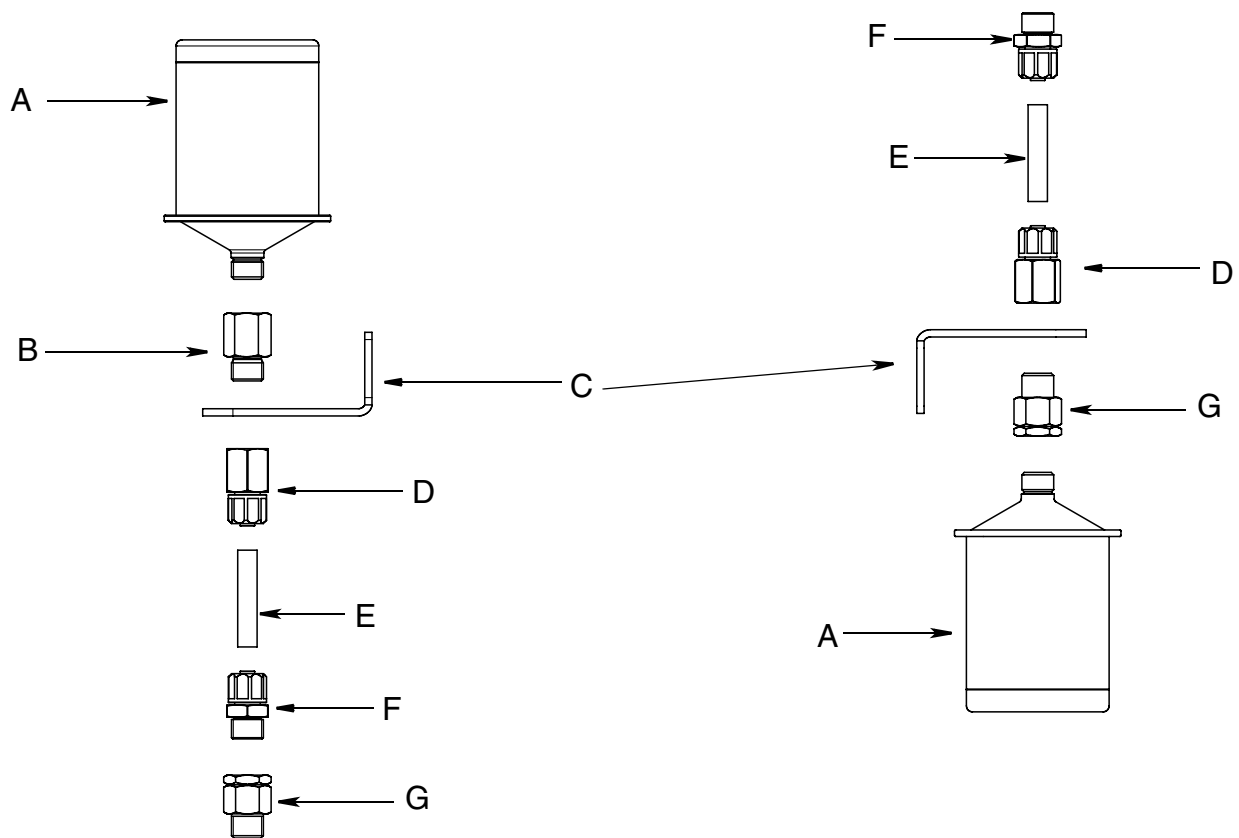

FIG. 7
- Installations up to 3 ft away from the lubrication point can be mounted with flexible tubes and a bracket. Refer to FIG. 5, FIG. 6 and FIG. 7 for examples of correct remote mounting installations